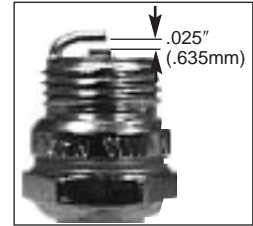

Fig. 8-4
1. Spark plug gap = .025" (.635mm) (Figure 8-4).
1. L'écartement de bougie = 0,635mm (0,025") (Figure 8-4).